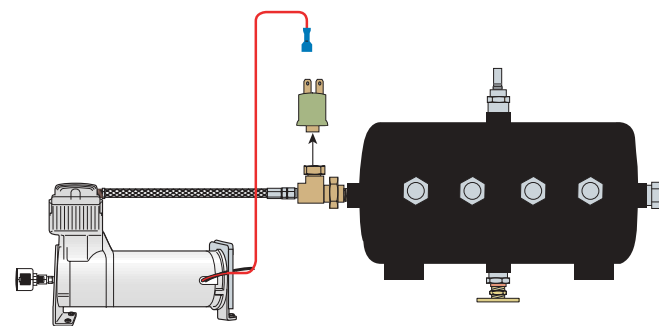

Figure 2
2. Disconnect the pressure switch from the tee on the air tank (Figure 2).